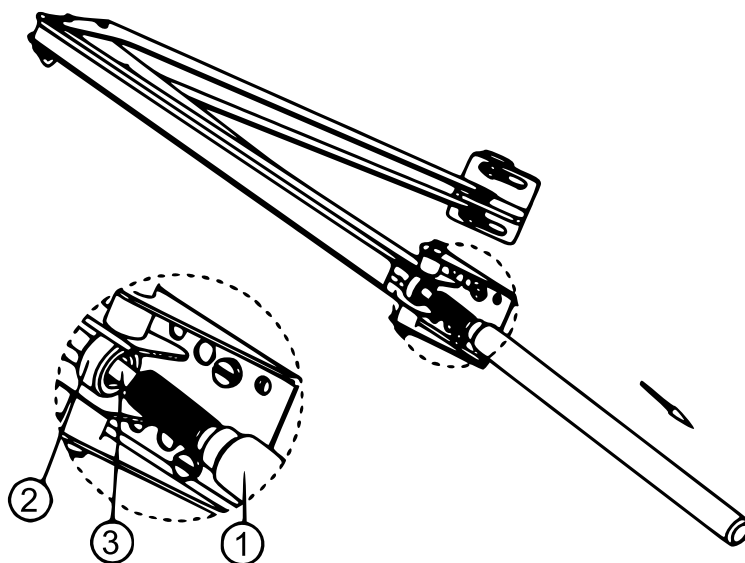

Figure 7
- Unscrew the cylinder (1) from the cylinder casing (2), yet do not remove the cylinder. The piston rod (3) and the thrust rod (6) should stay built together (see fig. 7).